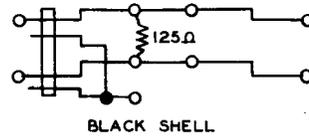

Fig. 7—381A Plug
2.07 381A: The 381A (Fig. 7) is a twin, 2-conductor plug that has a metal shell. The sleeves and shell are connected together and form a shield for the tip conductors. The 381A plug is not designed for cord connection, but is arranged for the 308A plug through the rear of the shell. The 381A